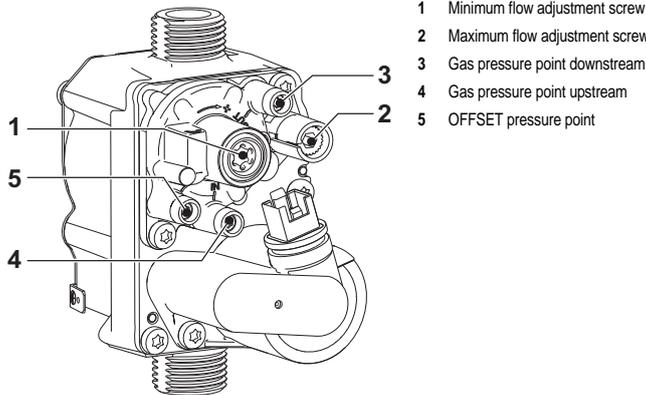

fig. 23 - Gas valve
- If the values are different from those indicated, adjust the CO₂ by turning the maximum adjustment screw (ref. 2 fig. 23) and bringing the CO₂ values to those indicated.
- If the CO₂ values are different from those indicated, carefully adjust the minimum "OFFSET" screw (ref. 1 fig. 23) checking that the CO₂ is correct:
- Check that the OFFSET value is between -3 and -9 Pa with differential pressure gauge, on pressure point ref. 5 fig. 23.